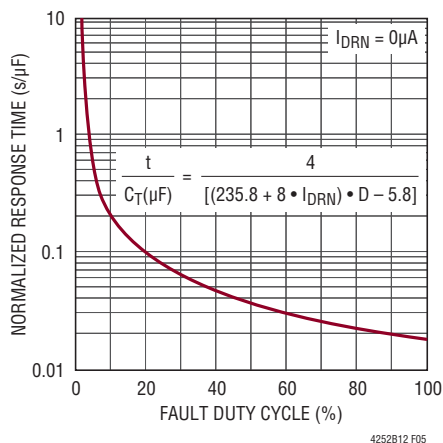

Figure 5. Circuit-Breaker Response Time
2.5% or more will eventually trip the circuit breaker and shut down the LTC4252. Figure 5 shows the circuit breaker response time in seconds normalized to 1μF for $I_{DRN} = 0\mu A$. The asymmetric charging and discharging of C_T is a fair gauge of MOSFET heating.